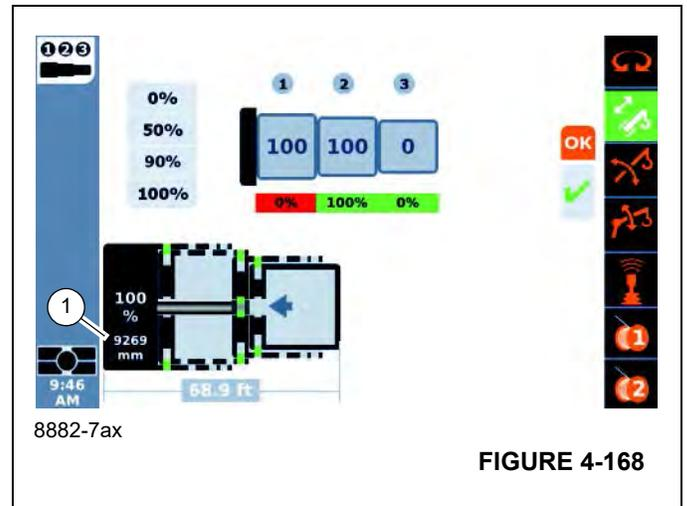

FIGURE 4-168
Display:	Current extended length of the telescoping cylinder (1), (Figure 4-168)